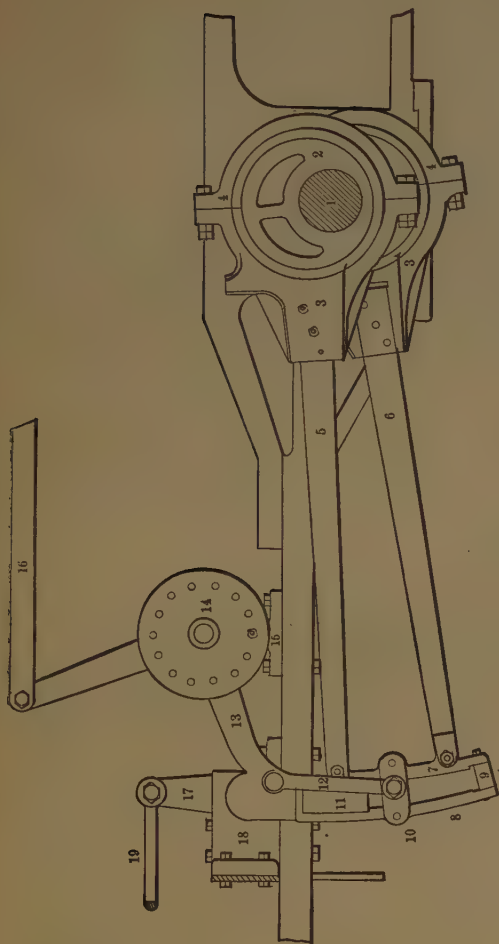

Fig. 91. Valve Motion Work, Shifting Link.
A. It is a curved piece of metal, having in it a slot of circular curvature, the concavity of which is towards the eccentric. In this slot plays accurately a block, which may pass from one end to the other thereof. This block is attached to the lower arm by a pin which serves as a pivot. The two eccentric-rods are attached to the ends of the link by pins serving also as pivots. The link itself has across it, as shown in figure 91, a plate to which is attached a pin, by which the link is hung by a nearly vertical link-hanger to the lower end of a lifting-arm borne on a horizontal shaft parallel with the axle. This lifting-arm may be raised and lowered, carrying the link with it, by a nearly vertical arm, which is connected by a nearly horizontal reverse-rod to a nearly vertical reverse-lever in the cab. Moving the upper end of the reverse-lever forward and backwards lowers and raises the link. The weight of the link and of otherwise unbalanced parts of the gear is balanced by a spring. In England these same otherwise unbalanced parts are balanced by a weight.
A. In two main parts, the front and the back half (as shown in figure 91), with filling-piece 9 between them, and a saddle, 10, by which it is suspended by the link-lifter 12, which is raised by the reverse-shaft 13; its weight being counterbalanced by the counterbalance-spring 14.
A. By turning the case and adjusting the bolt in any one of the holes shown in a circle in the illustration, figure 91.